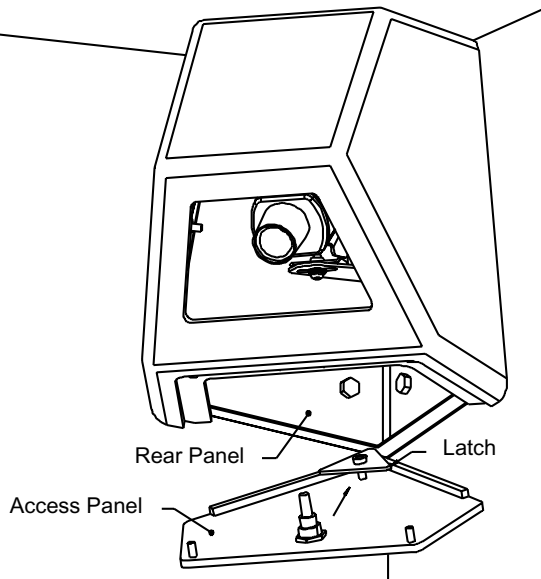

**Figure 13: Inserting the Access Panel**
4. **All Models Except HS9303L:** Attach the access panel to the housing by inserting the latch into the rear panel. Screw the two tamperproof screws down tight to the cover. If the rear of the access panel is not tight remove access panel and lower the latch by rotating it clockwise. Repeat until tight. **See Figures 13 and 14.**